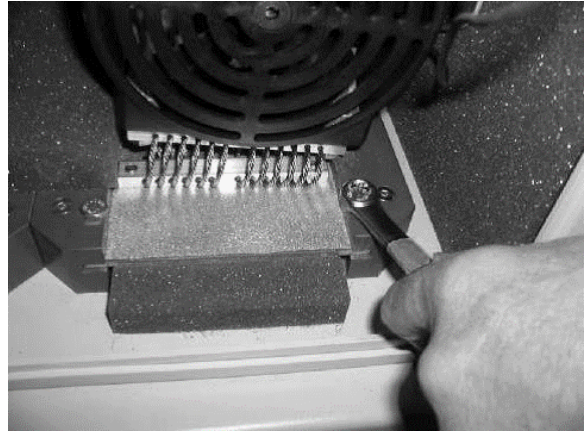

Fig. 6
- 13 Locate the locking bolts attaching the compressor to the bottom of the unit. Remove screws using a 7/16" wrench or socket. (Fig. 6)